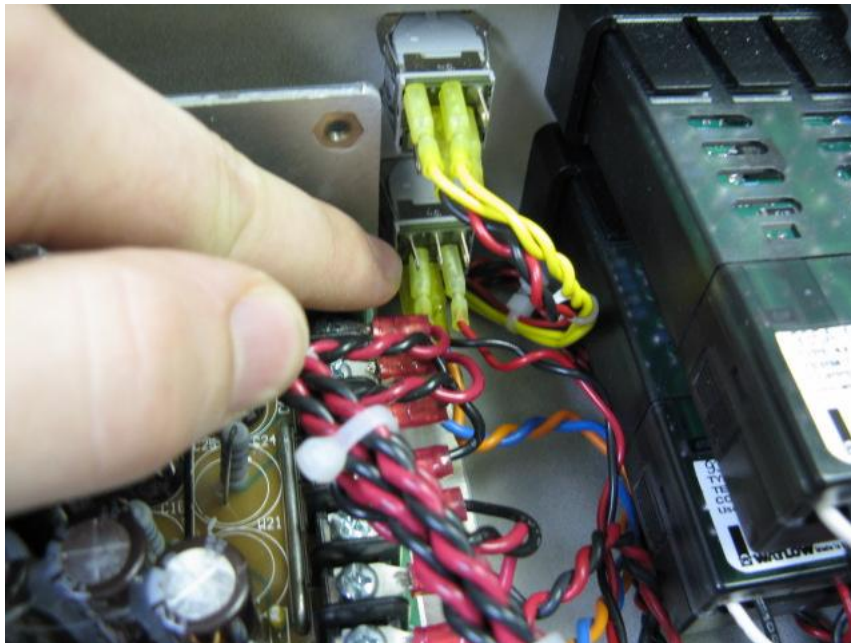

Figure 1-14.
12. The blue and orange wires then run to the front of the case to the Operate Switch, along with the black and red wires from the oscillator. See diagram & figure 1-14.